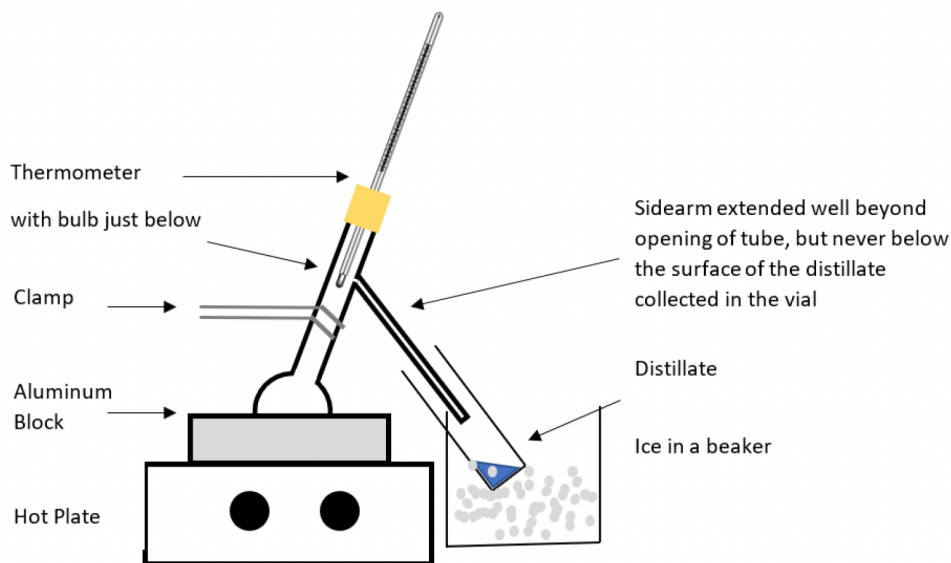

Figure 11.3: Distillation setup
8. While the product is drying, set up the apparatus for distillation (Figure 11.3).